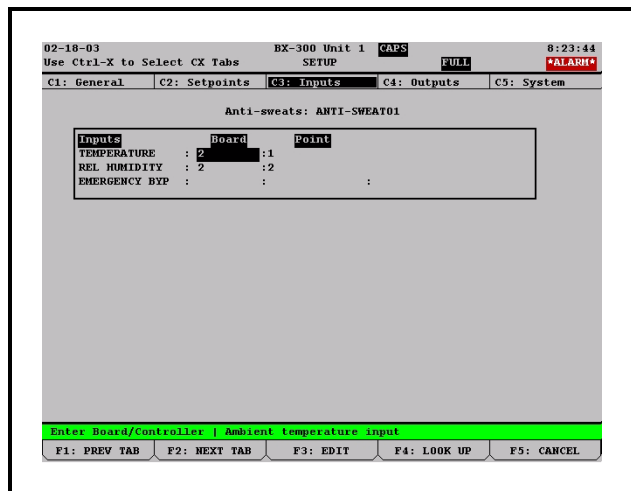

Figure 4-6 - Anti-Sweat Inputs Setup Screen
3. Press **F2** (NEXT TAB) to advance to the Inputs Setup screen (*Figure 4-6*).